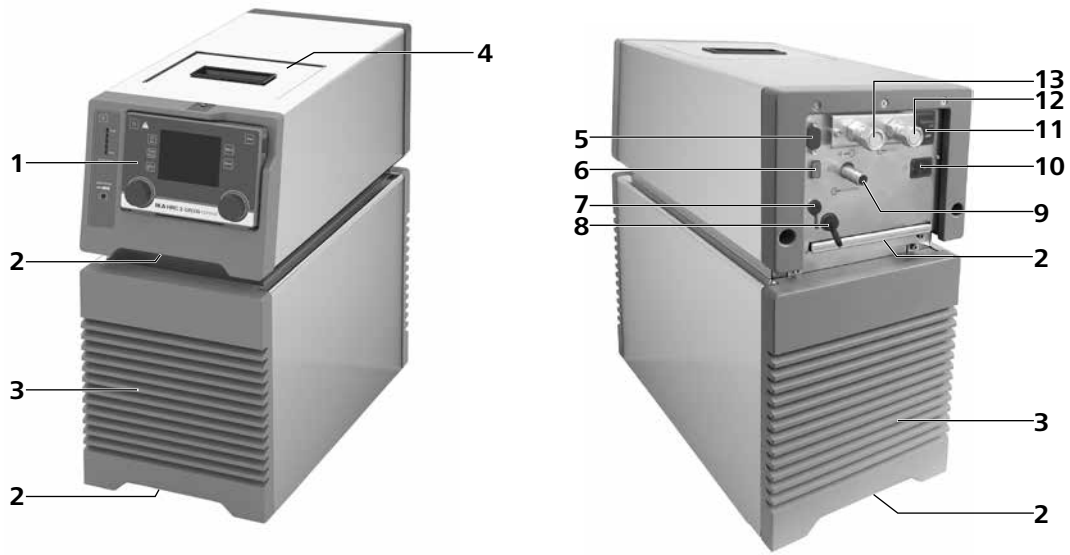

Fig. 1
- Pay attention to the marked sites in Fig. 1.